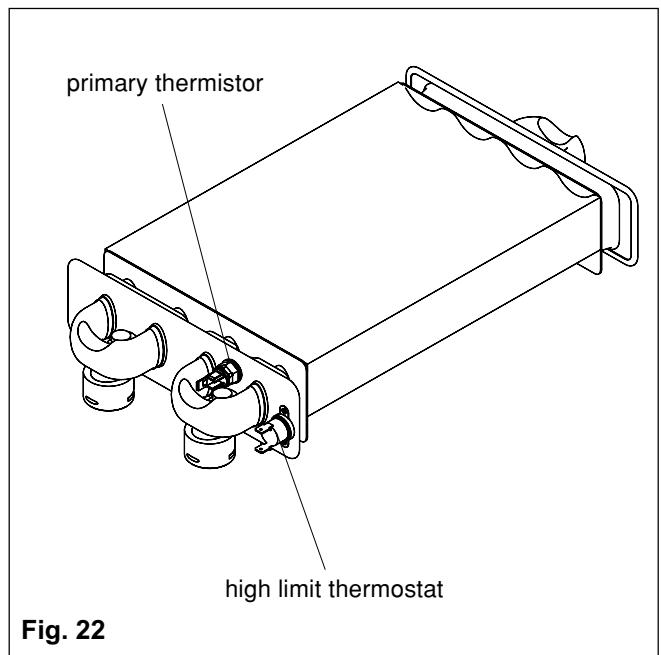

Fig. 22
6.13 HIGH LIMIT THERMOSTAT fig. 22